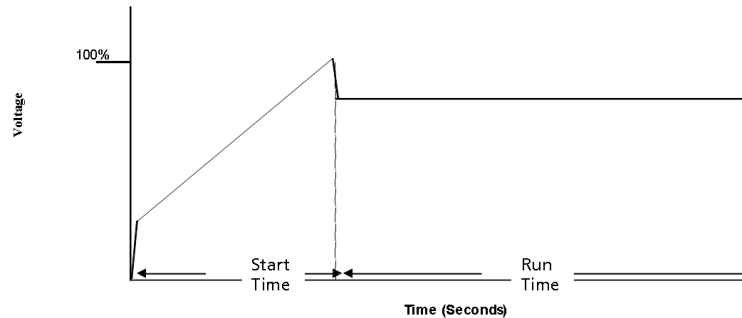

Figure 1. – Timed Soft Start
- In this soft start mode, the output voltage to the motor is gradually increased during the start time (See Figure 1).